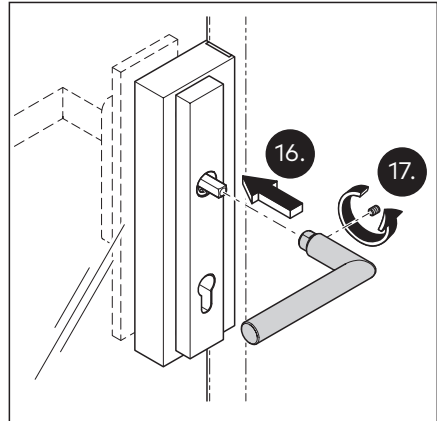

Fig. 37 Fix the door handle in place on the lock side.
- 16. Attach the door handle on the lock side and push until you hear it click into place against the square spindle (Fig. 37).